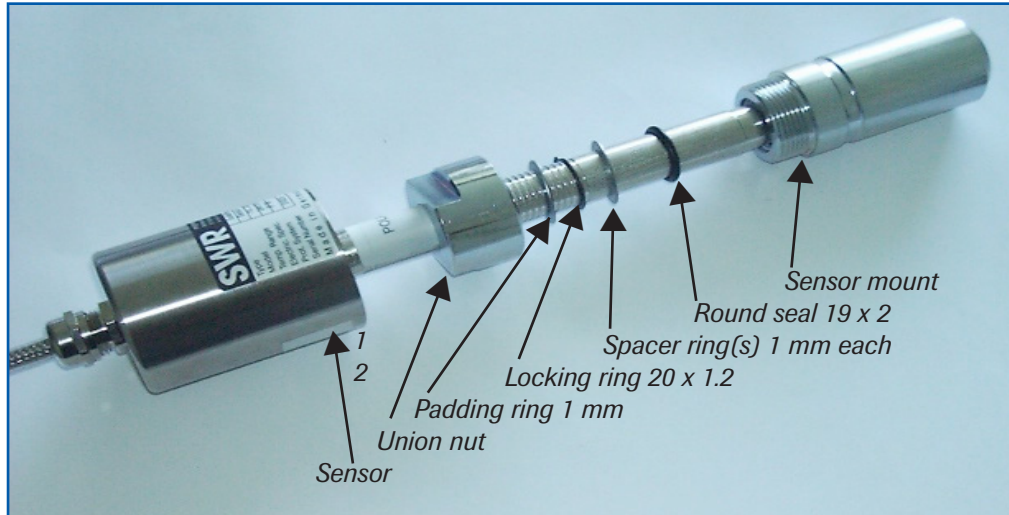

Fig. 8a: Install the sensor mount and the sensor
- Now insert the sensor into the sensor guide as shown in Figure 8a.